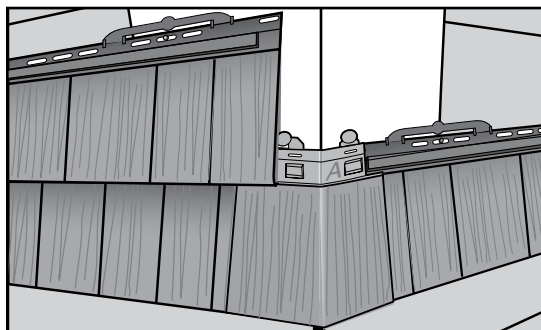

figure 11
2. Once the panel has been fastened, hook the corner "A" over the siding, making sure the corner piece is locked into the starter strip (figure 11).